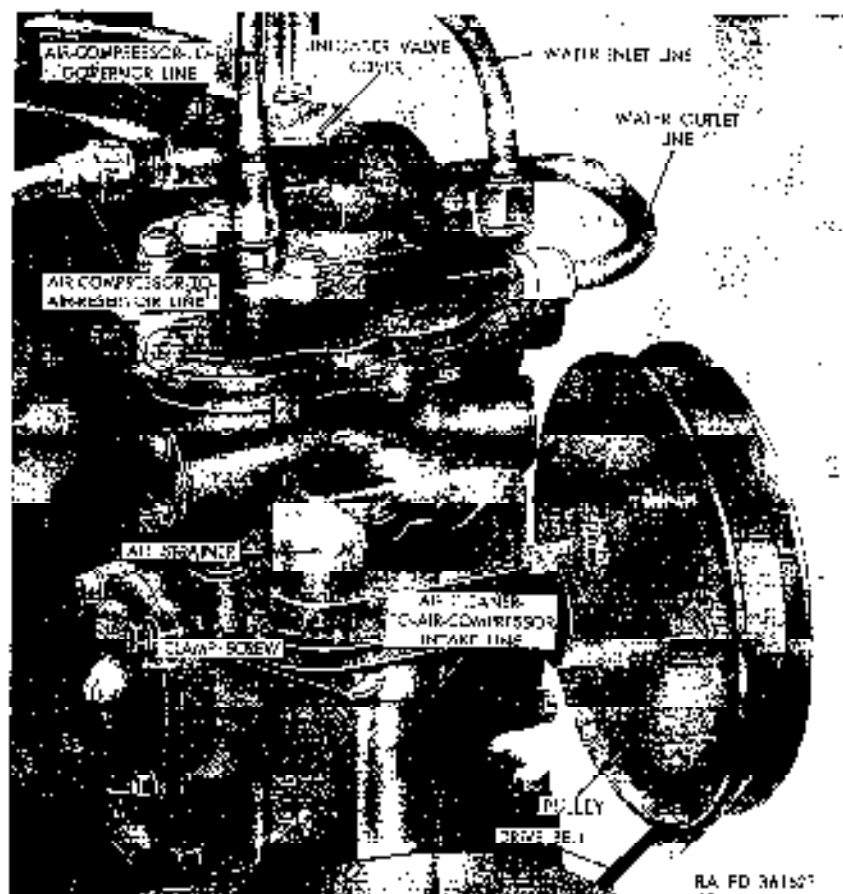

Figure 149. Air compressor.
- (2) *Remove gearshift lever.* (fig. 149). Turn shift-lever-retainer cap screws outward (counterclockwise) one half inch and lift gearshift lever and retainer from gear shifter housing cover.